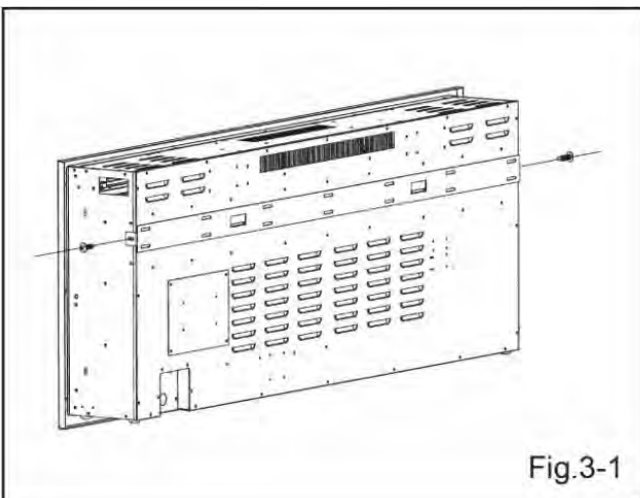

Fig.3-1
- Remove the wall bracket (**H**) from the back of the unit by removing the screws, see FIG. 3-1. Set screws aside.